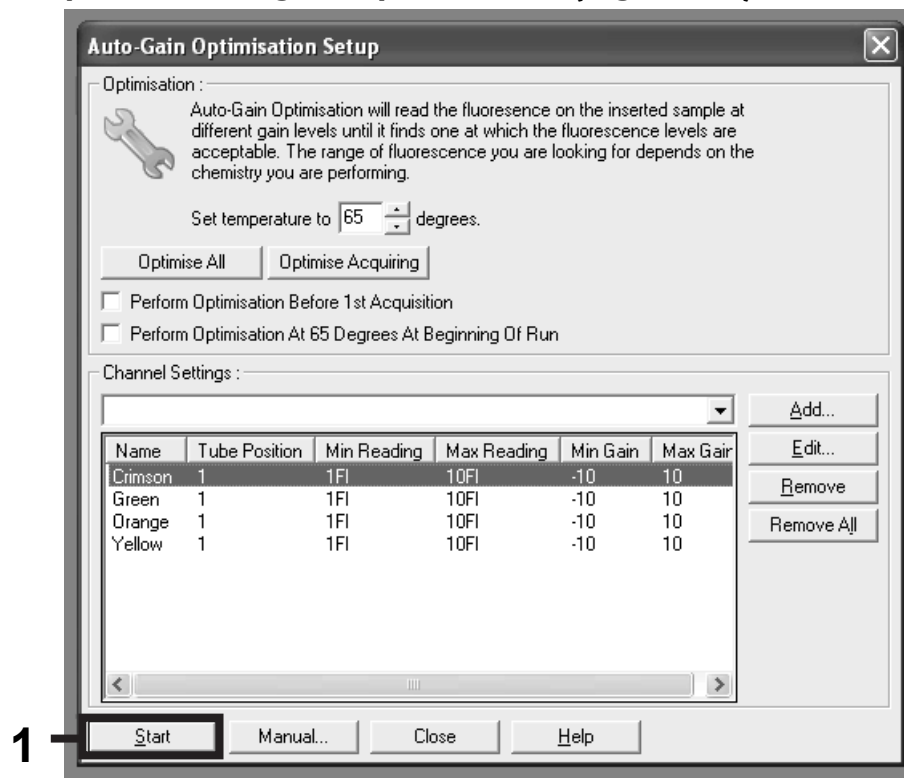

Figure 11. Gain optimization.
11. Click "Start" in the "Auto-Gain Optimisation Setup" dialog box to perform the gain optimization (Figure 11).